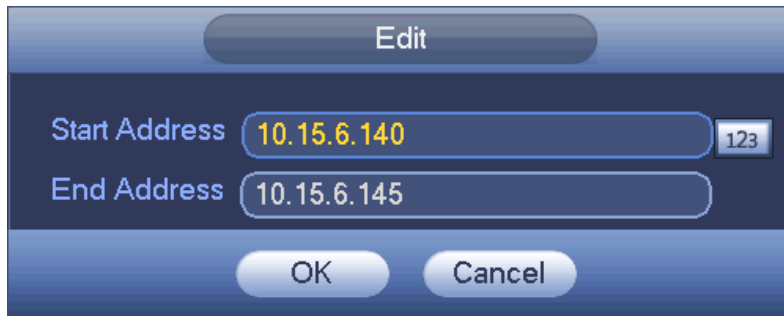

Figure 4-230
- Edit: Click it to edit start address and end address. See Figure 4-230. System can check the IP address validity after the edit operation and implement IPv6 optimization.